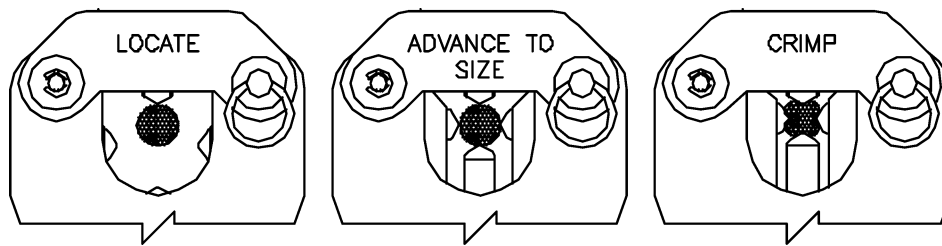

FIGURE 3
4. Actuate the pump handle and the indenters will start compressing the sleeve (see Figure 3). A positive trip accompanied by a distinct "click" will occur when the crimp is completed. Stop pumping. Back off the rapid advance handle (rotate counter-clockwise) approximately one-half to one turn.